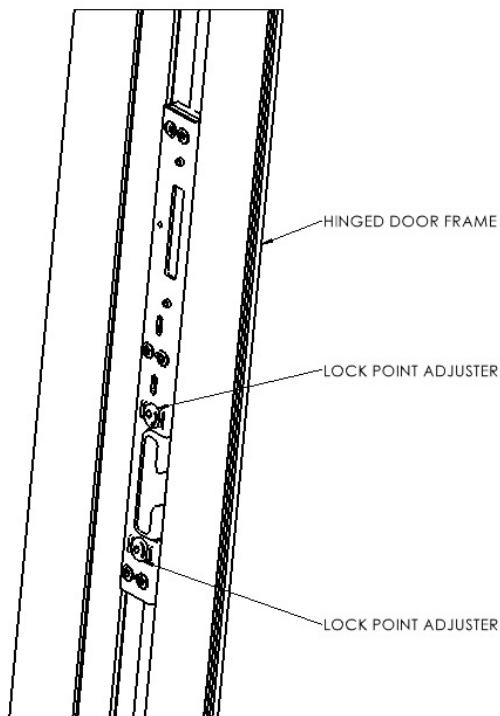

Figure 3
6. Inspect the frame to ensure it is plumb, level and square. Ensure the door leaf is not racked or crooked, operates smoothly and locks with little effort. Individual locking points are adjustable by turning the adjustment screw. (See Figure 3).